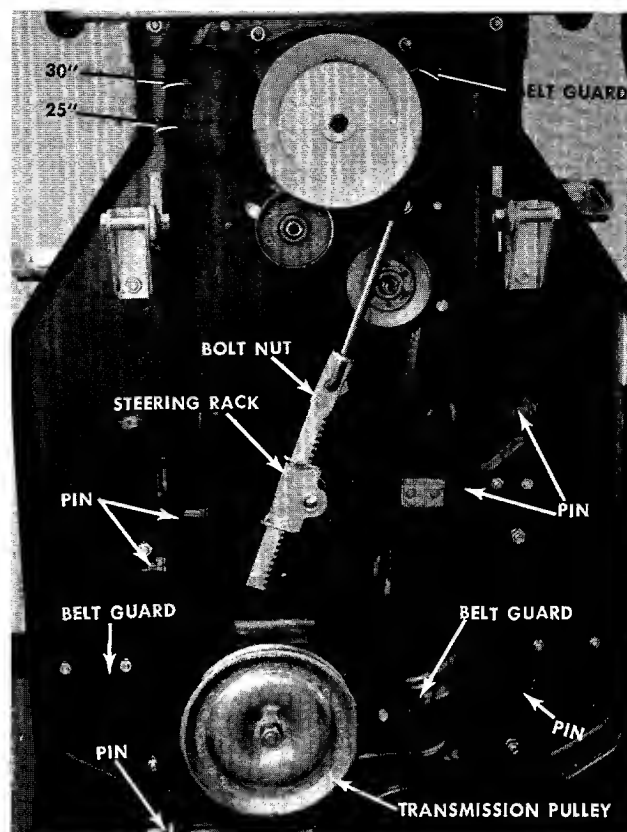

FIGURE 25. BOTTOM VIEW
- Step 6. Remove the six pins holding the deck to the frame. See figure 25.
- b. Remove the two belt guards from the transmission pulley. See figure 25.